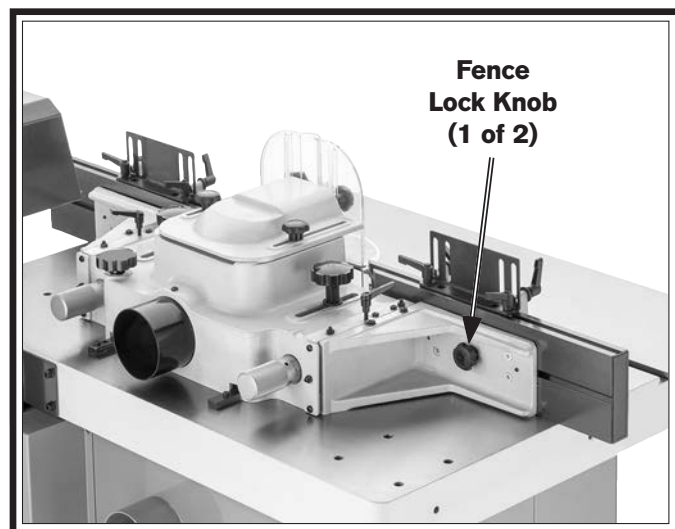

Figure 50. Fence clearance controls.
2. Loosen fence lock knobs to move fence faces so they barely clear cutter on each side (see Figure 50). This allows maximum support possible for workpiece when passing cutter.